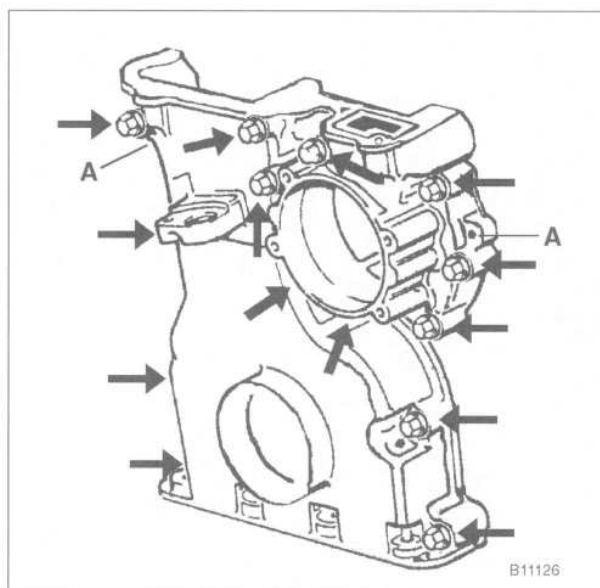

Fig. 13. Lower timing chain cover mounting bolts (arrows) and locating dowels (A).
23. Using a drift, drive out the two locating dowels in left and right sides of the lower timing chain cover. Remove the cover mounting bolts and carefully lift the cover off. See Fig. 13.